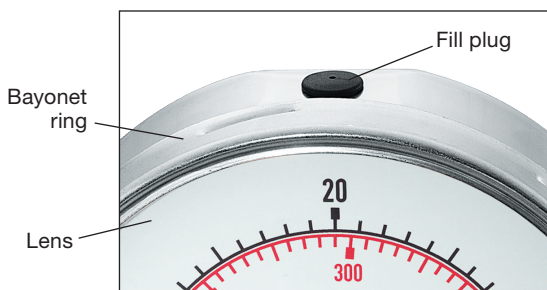

Fig. 3
3. Use a screwdriver to pry the black fill plug from the fill port on the top of the gauge. See Fig. 3.
7. Remove the gauge from the vise or fixture. Tip the gauge, allowing the glycerin to flow around the **fill plug**, **lens**, and **bayonet ring**, to ensure there is no leakage around these locations. Refer to Fig. 3. If a leak is found, secure the fill plug or tighten the bayonet ring using a **strap wrench** (refer to Fig. 1). Continue checking until no leakage is found.